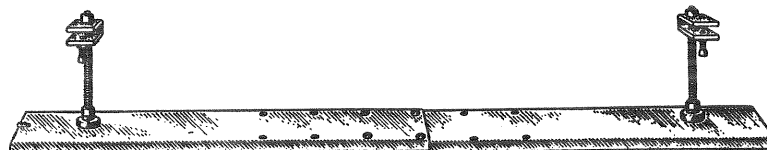

Figure 5—Antenna Plate
The antenna plate, Figure 5, is provided for use when a roof antenna is not already installed in the car. It is provided with special bolts and clamps that allow easy mounting to the frame of the car. Due to the high sensitivity of this receiver, satisfactory results may be obtained with the undercar antenna except in districts where the signal intensity of all stations is extremely low. In such cases a roof antenna must be erected in accordance with the instructions given in Part I, Section 3.
**Mounting** After determining the proper location, fasten the plates together with the screws provided. Adjust the length so that the plate is as long as possible and still fulfill the foregoing conditions. Assemble the mounting bolts onto the plate as shown in Figure 5 and fasten the clamps to the car frame. Then tighten the bolt that holds the antenna plate to the bracket and the screw and lock nut that holds the bracket to the car frame. *Too much attention to the proper tightening of these screws is impossible, as any loosening of this plate that results in one end dropping while the car is driven at high speed may result in an accident.*